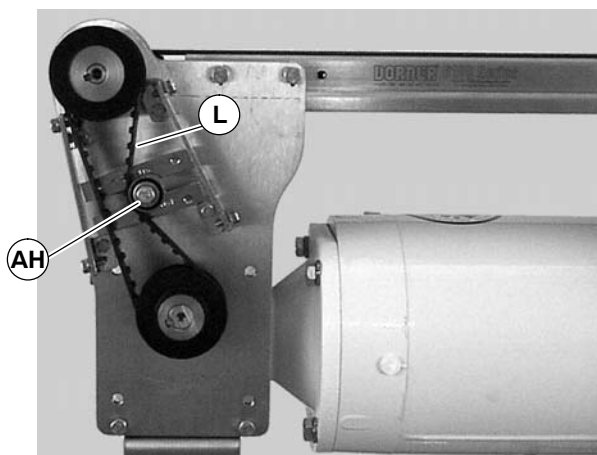

Figure 25
2. Loosen tensioner (AH of Figure 25).